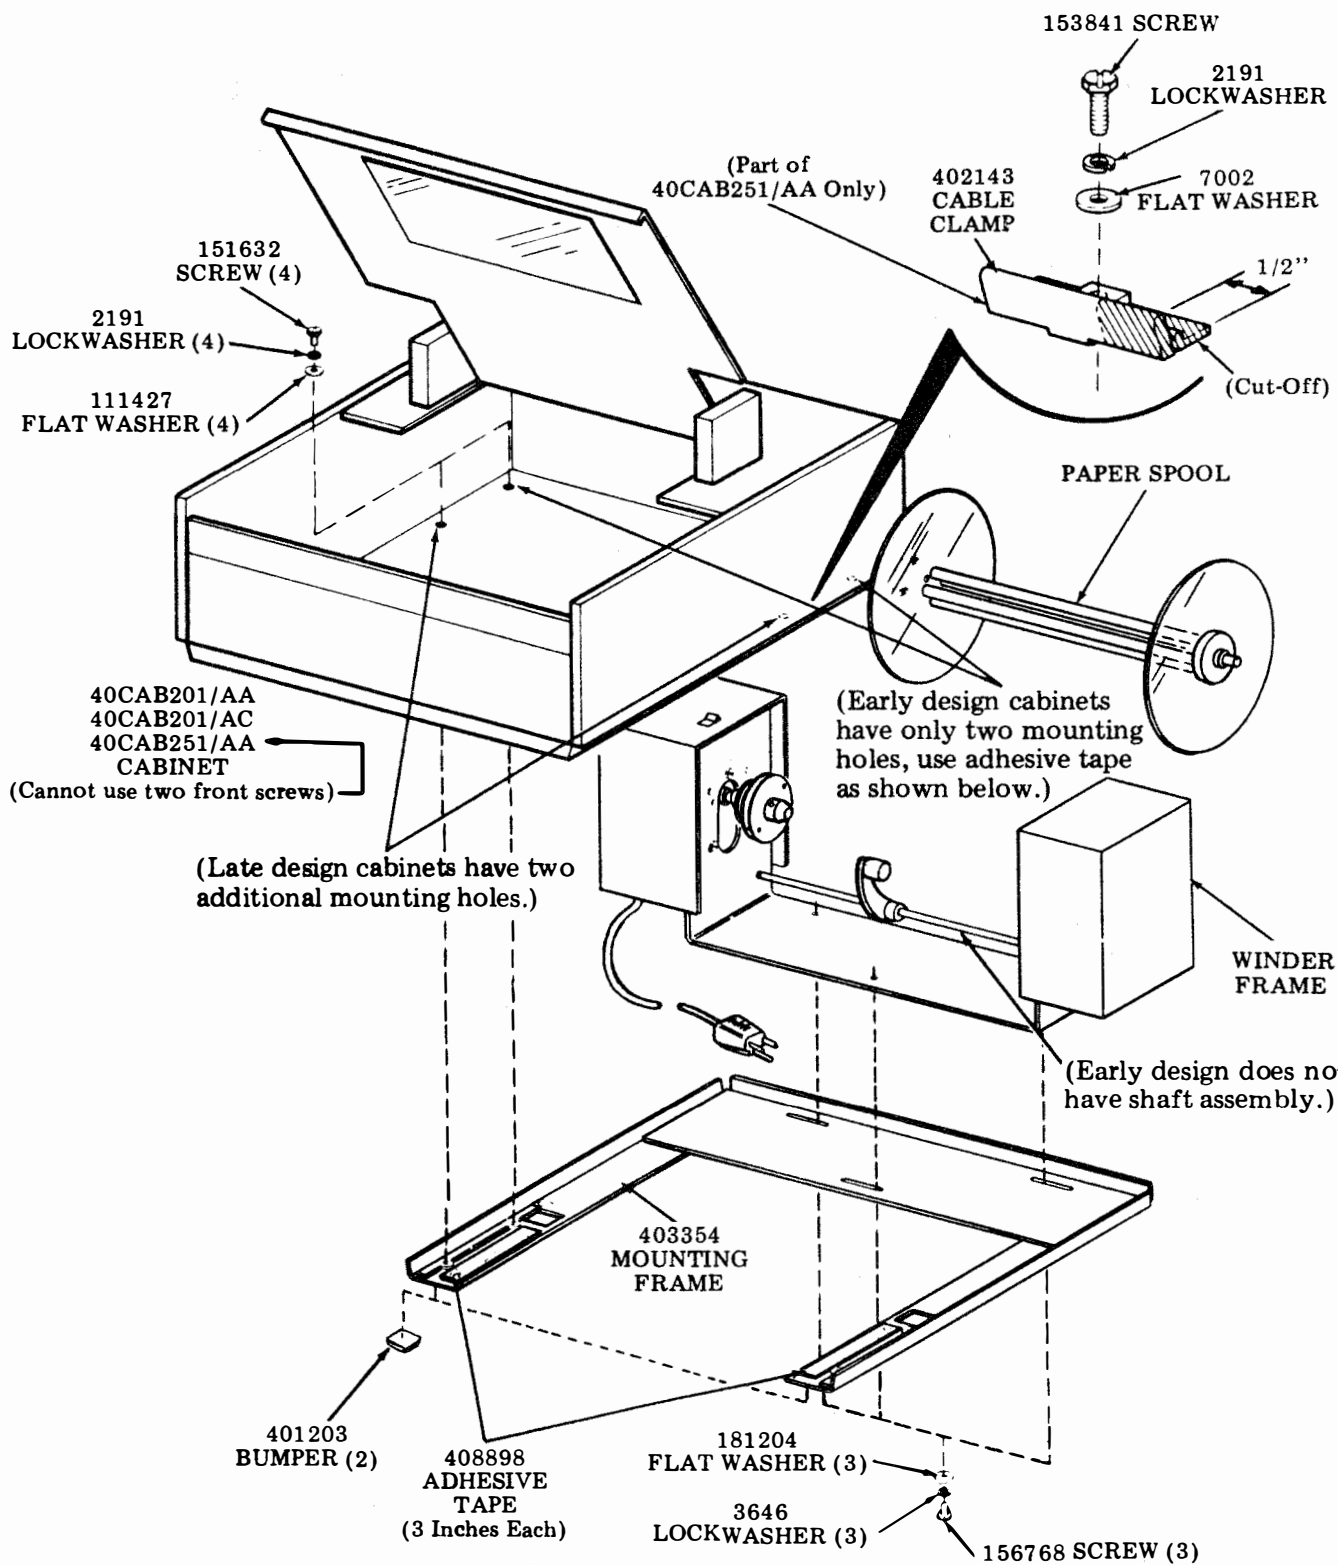
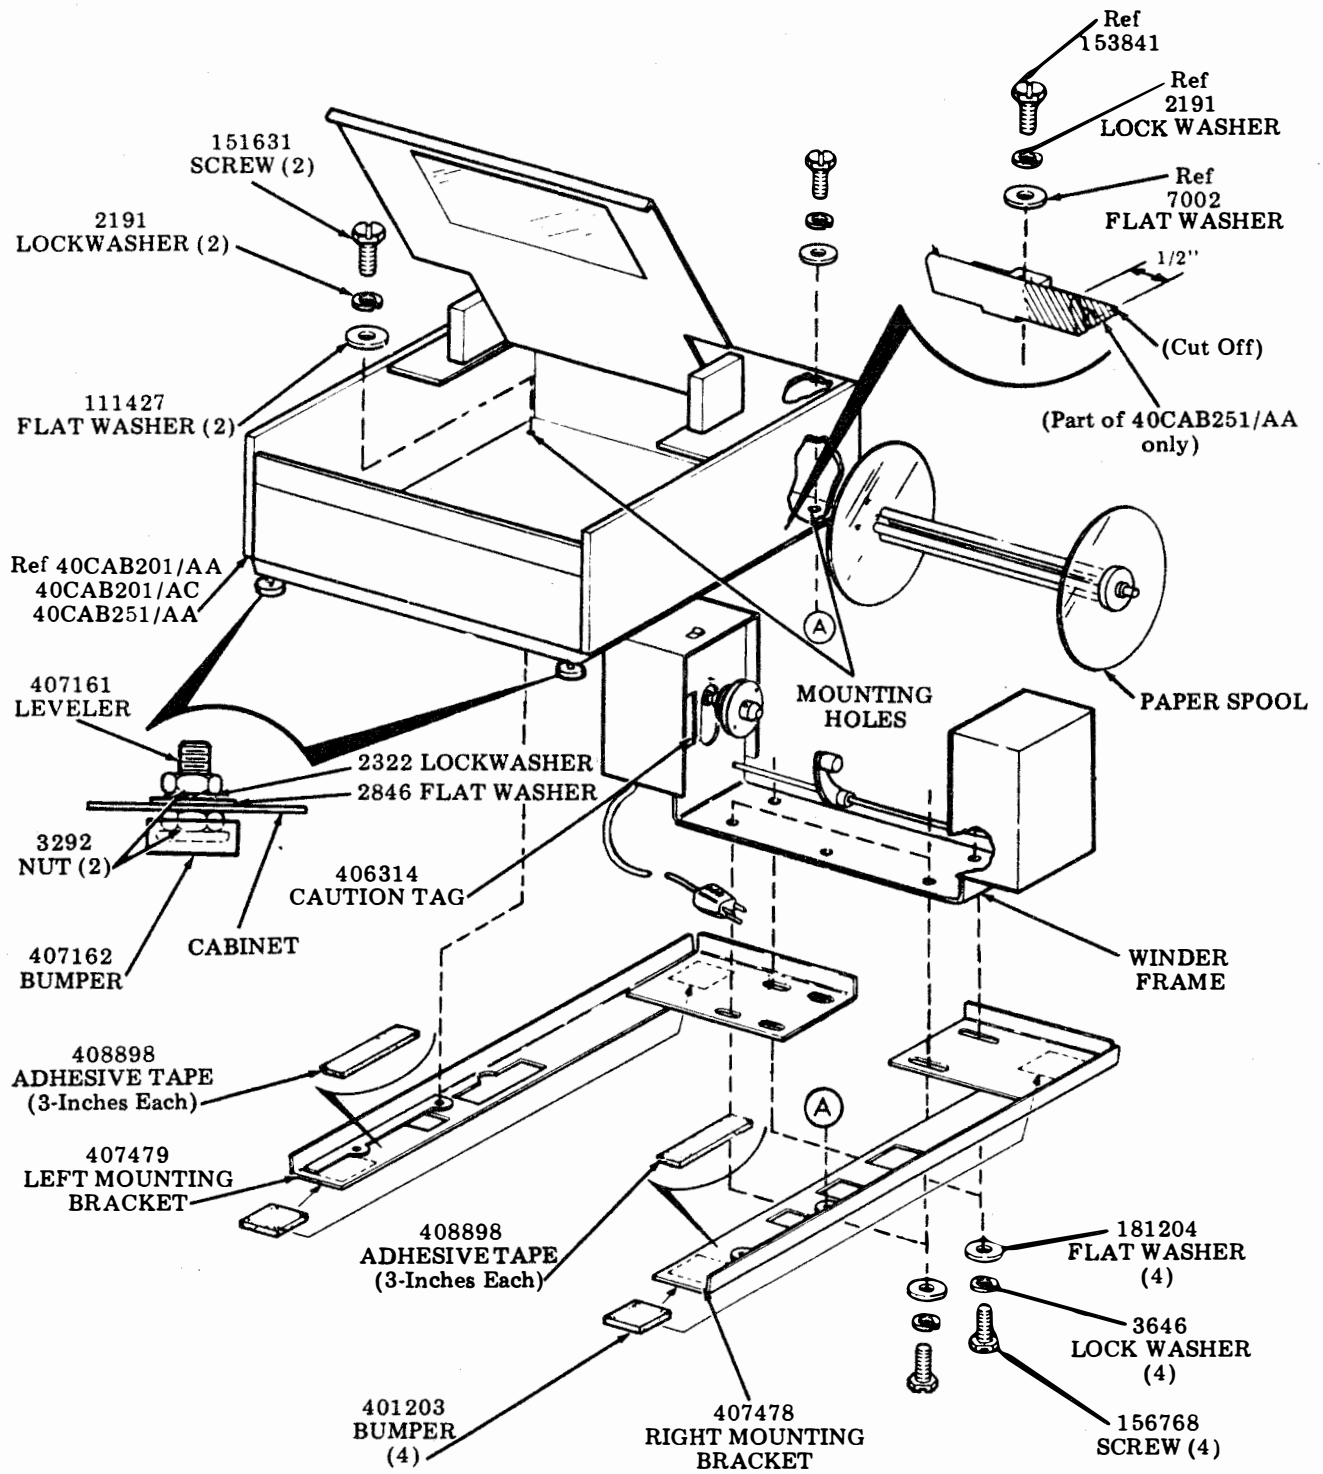

Fig. 6—40PWU101 Paper Winder Mounted Under Cabinet (17-Inch Wide)
Fig. 7—40PWU102 Paper Winder Mounted Under Cabinet (17 Inch Wide)
4.05 Assemble paper winder to cabinet. Use Fig. 6 for 40PWU101 and Figs. 7 and 8 for 40PWU102.